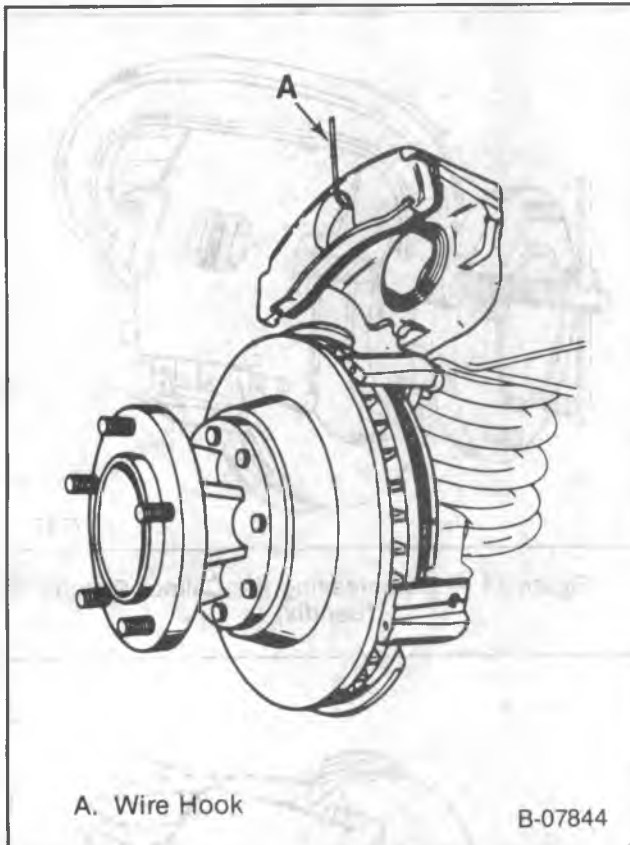

Figure 13 — Suspending the Caliper During Service
- Suspend the caliper from the suspension (figure 13).
6. Inboard pad (6) from the steering knuckle or rear caliper support.
7. Anti-rattle spring (11).
8. Outboard pad (7).